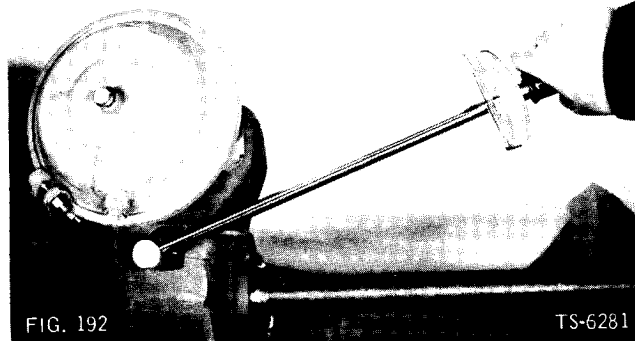
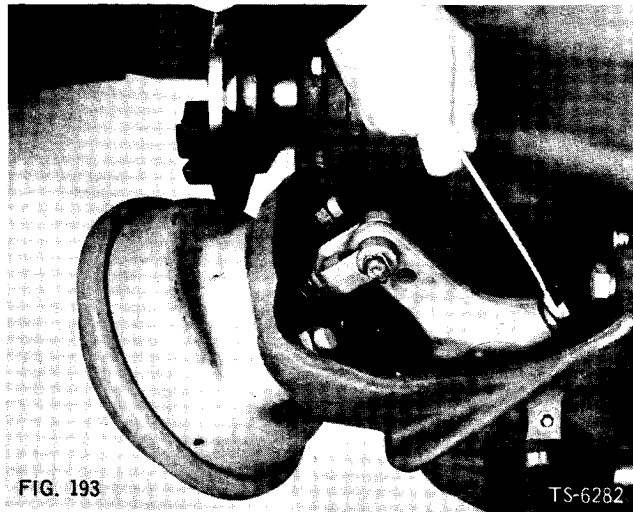

FIG. 192
FIG. 193
NOTE: Some axle models have slack adjuster positioned so that adjusting screw is adjacent to air chamber bracket (Fig. 192). Others have slack adjuster positioned so that adjusting screw points away from air chamber bracket (Fig. 193).
3. While holding in locking collar, rotate adjusting screw clockwise until 20 ft. lbs. torque is indicated on torque wrench (Fig. 192).
6. Use 9/16-inch, open-end wrench to make adjustment. Position wrench on adjusting screw and push in until locking collar releases adjusting screw (Fig. 193).